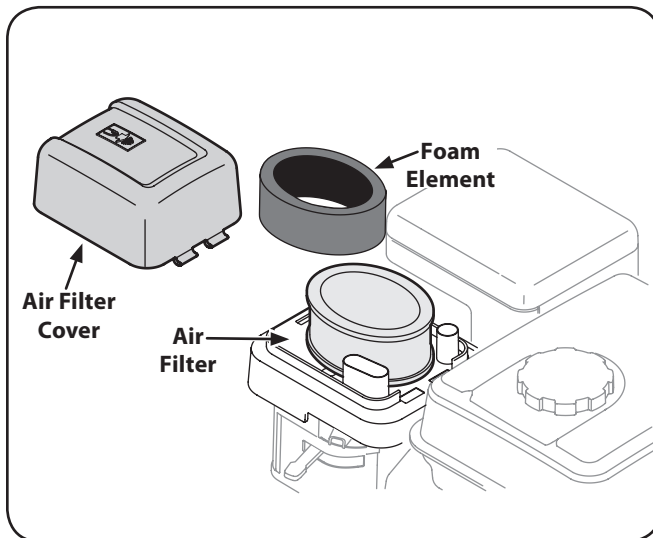

Figure 6-4
1. Press the tab on the air filter cover and lift the cover. See Figure 6-4.